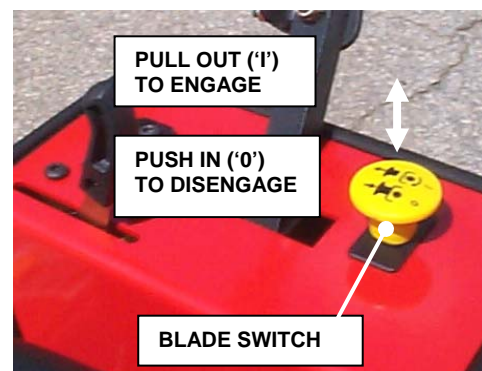

FIGURE 1.7
2. Make sure blade switch is pushed in to its off ('0') position. See Figure 1.7.
2. Be sure Blade Switch is pushed in to its off ('0') position. See Figure 1.7.